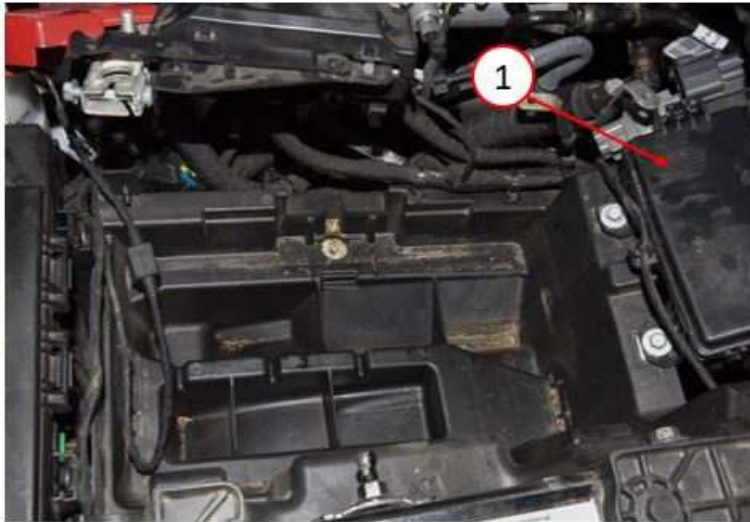

Fig. 1
3. Locate the AUX Power Distribution Center (PDC) next to the left battery tray, (Fig. 1) .